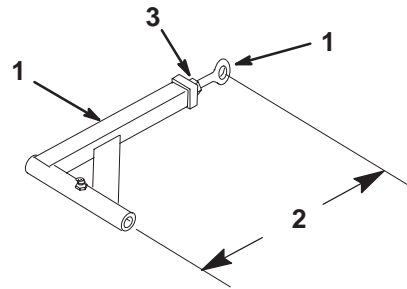

Figure 69
11. If the fixed idler contacts the end of the adjustment slot and more belt tension is required, a small change in the lengthen the push arms can be made (Fig. 69).
12. To adjust push arms, loosen jam nut and rotate ball joint counterclockwise, one turn at a time. Adjust each side the same amount (Fig. 69).